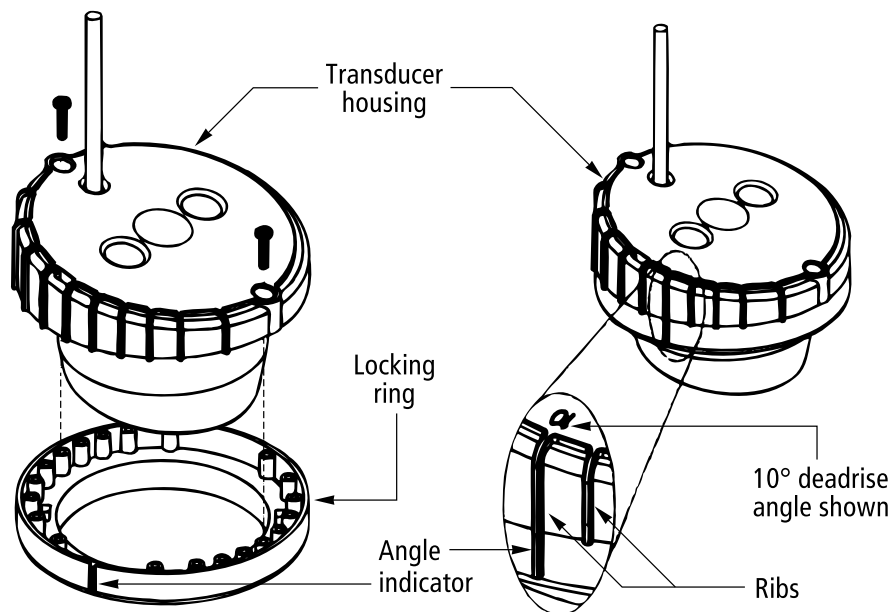

Figure 2-22: Joining the Transducer Housing to the Locking Ring
7. Slide the transducer housing into the locking ring. Turn the housing until the rib that most closely corresponds to the deadrise angle of your hull is aligned with the angle indicator on the locking ring. To secure the housing to the locking ring, insert two screws (see Figure 2-22). Do not overtighten the screws.
10. Lock the transducer assembly into the base by inserting the keys on the locking ring in the notches in the base. Press down and rotate clockwise until seated (see Figure 2-22).